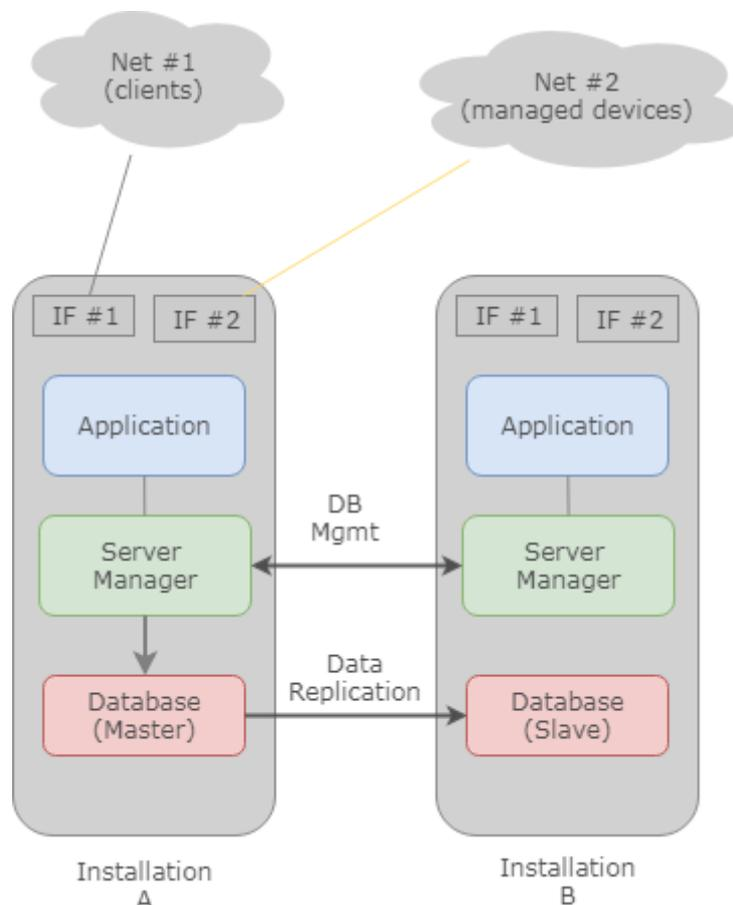

Figure 160. Database Replication - General Operation
1. Server instance 'A' acts as replication master for the database, server instance 'B' acts as replication slave. New data is stored in the master server's database and subsequently replicated into the slave server's database (Figure 160).
5. The replication process is re-initialised and both master and slave server operate in their previously determined replication modes (Figure 160).
4. The replication process is re-initialised and both master and slave server operate in their previously determined replication modes (Figure 160).